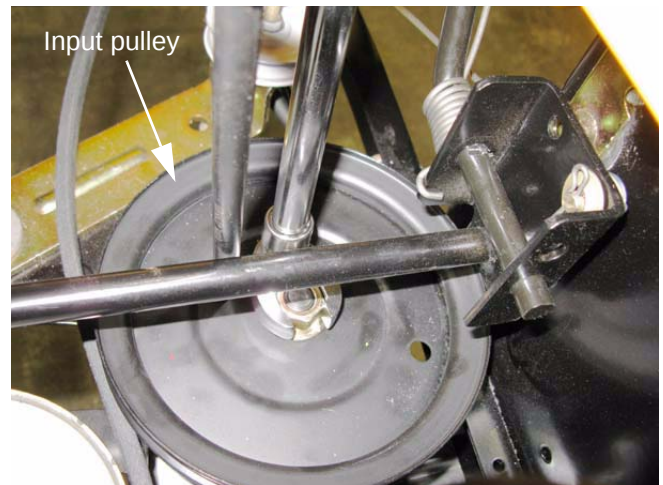

Figure 6.74
2. Remove the input pulley and input pulley adaptor from the transmission using a 7/8" wrench. See Figure 6.74.